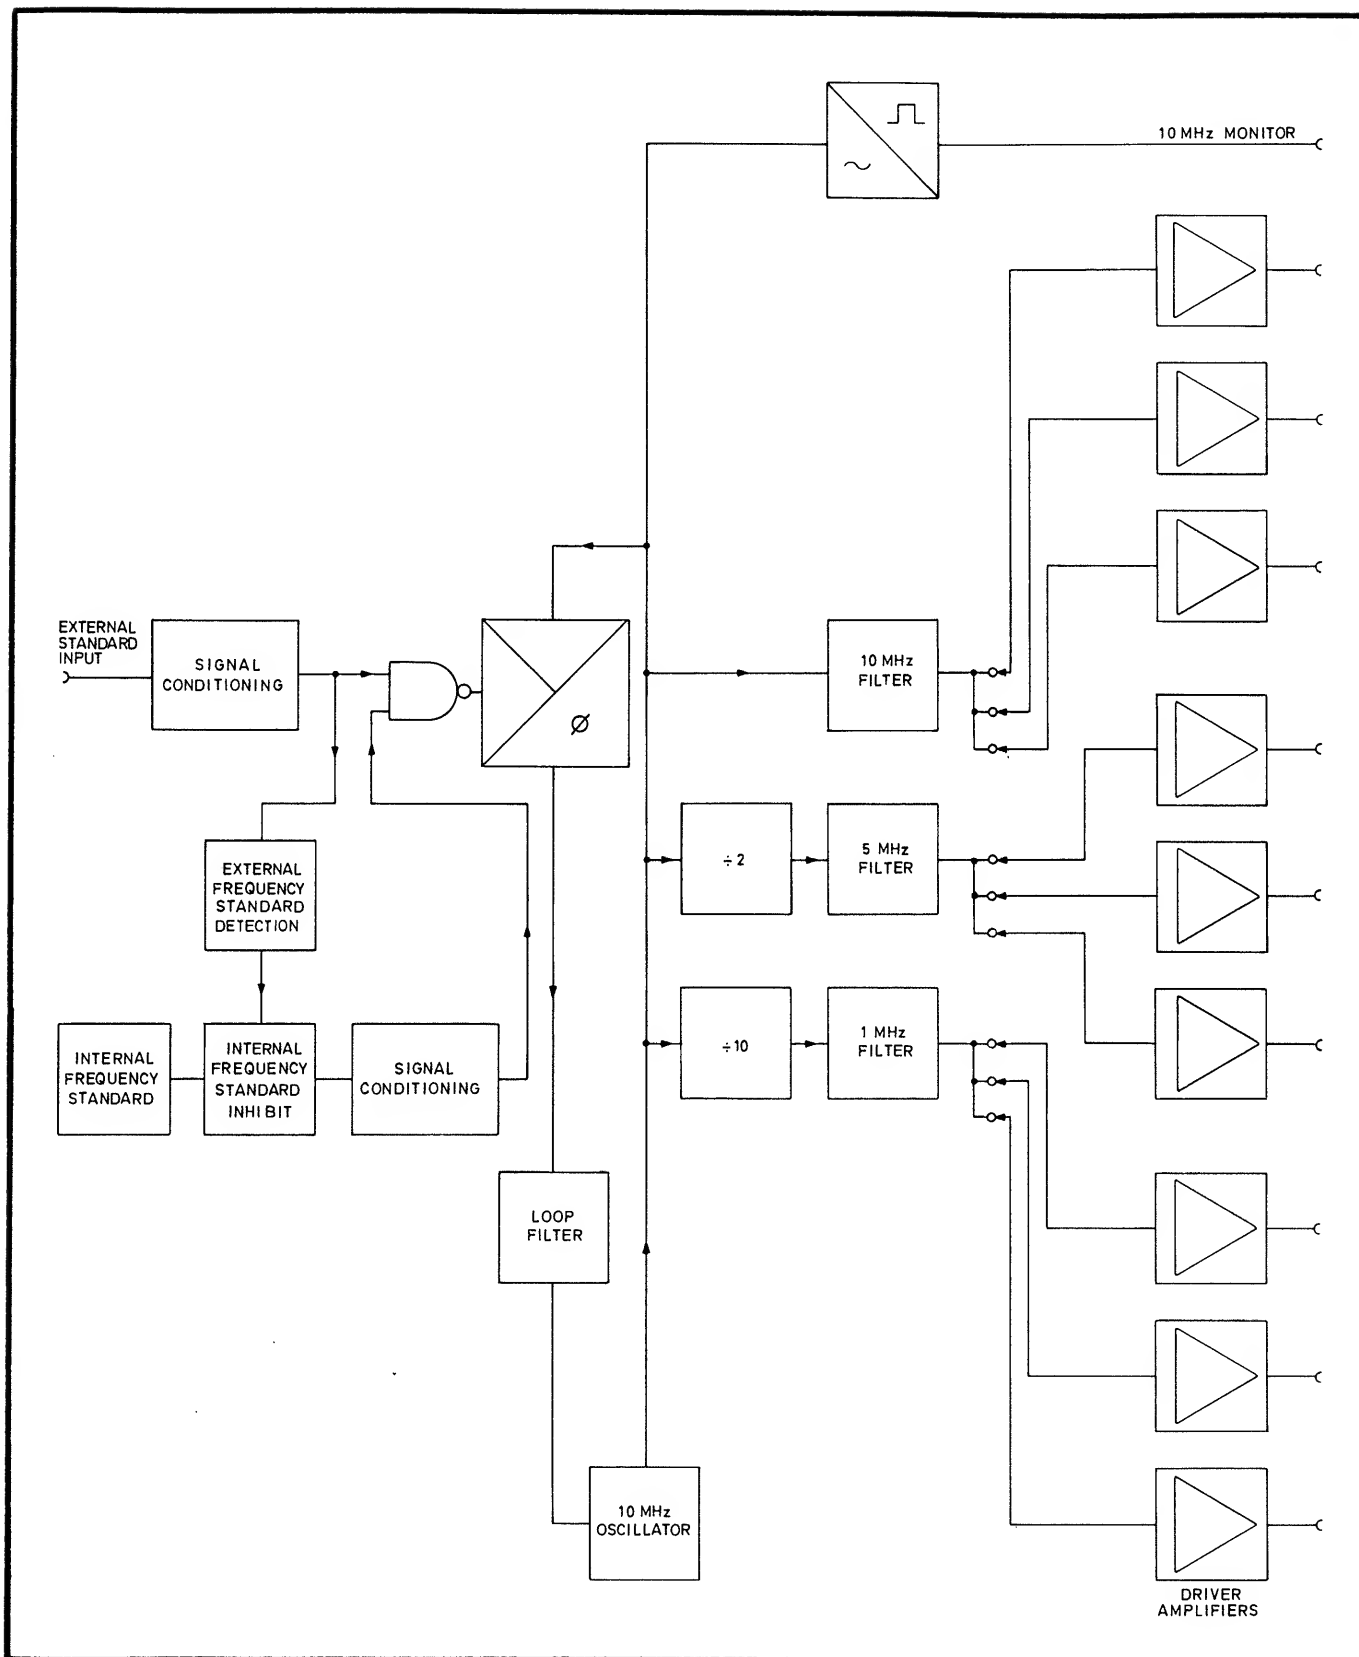

Fig. 5.1 Block Diagram
5.1.1 This section is written in two parts. Paragraph 5.2 covers the operating principles in general terms, with reference to the block diagram, Fig. 5.1. Paragraph 5.3 describes the operation of the circuits in greater detail, with reference to the circuit diagrams Fig. 2 and Fig. 3 in Section 7 of this manual. It is essential that the principles of operation are understood before the detailed circuit description is read.
5.2.1 A block diagram, showing the operating principle of the 9478 is given in Fig. 5.1.